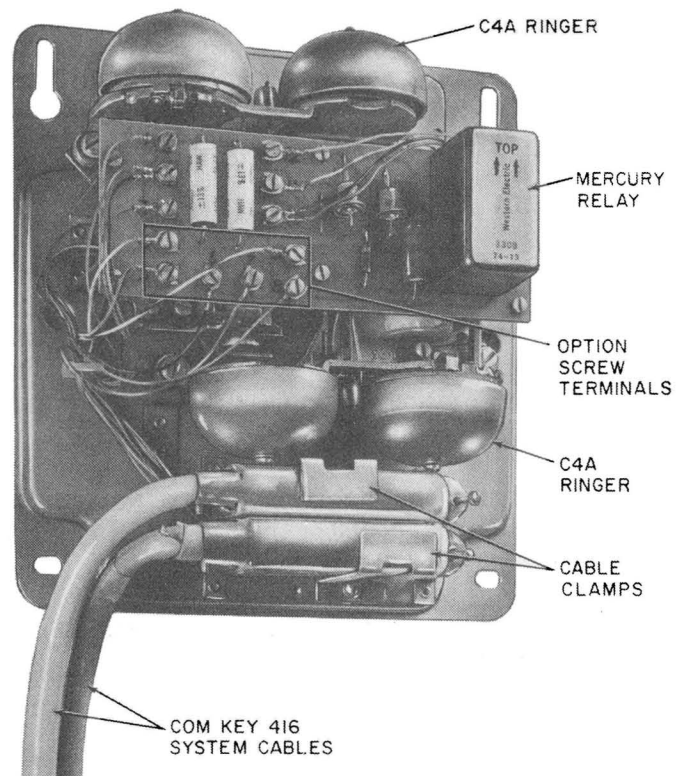

Fig. 15—24A Apparatus Unit
(1) Remove the cover and mount the base pan assembly (Fig. 15) on the desired vertical location (use appropriate fastener per BSP 080-720-105).
(2) Remove the cable clamp or clamps (Fig. 15).
(3) Insert system cable or cables (Fig. 15).